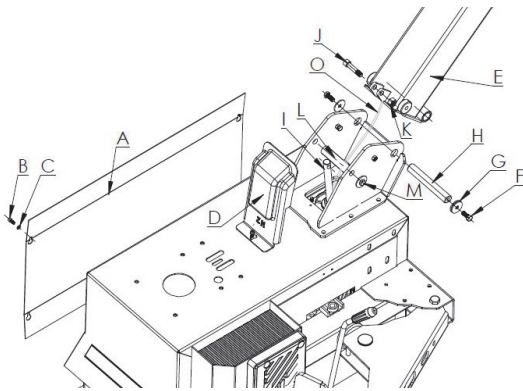

Fig.7
- Use 6mm inner hexagon spanner to take off the screw B and washer C, then take off the side cover A and cover as fig.7.
- Lift column E as fig.7, make pin hole of column and body in line, insert pin axis H, tighten screw F and washer G (screw M12x25) (If column can not be fixed in, loose screw M, after installation finished, tighten screw M again.) .
- Install side cover A and cover D, fasten with screws as fig. 7 .